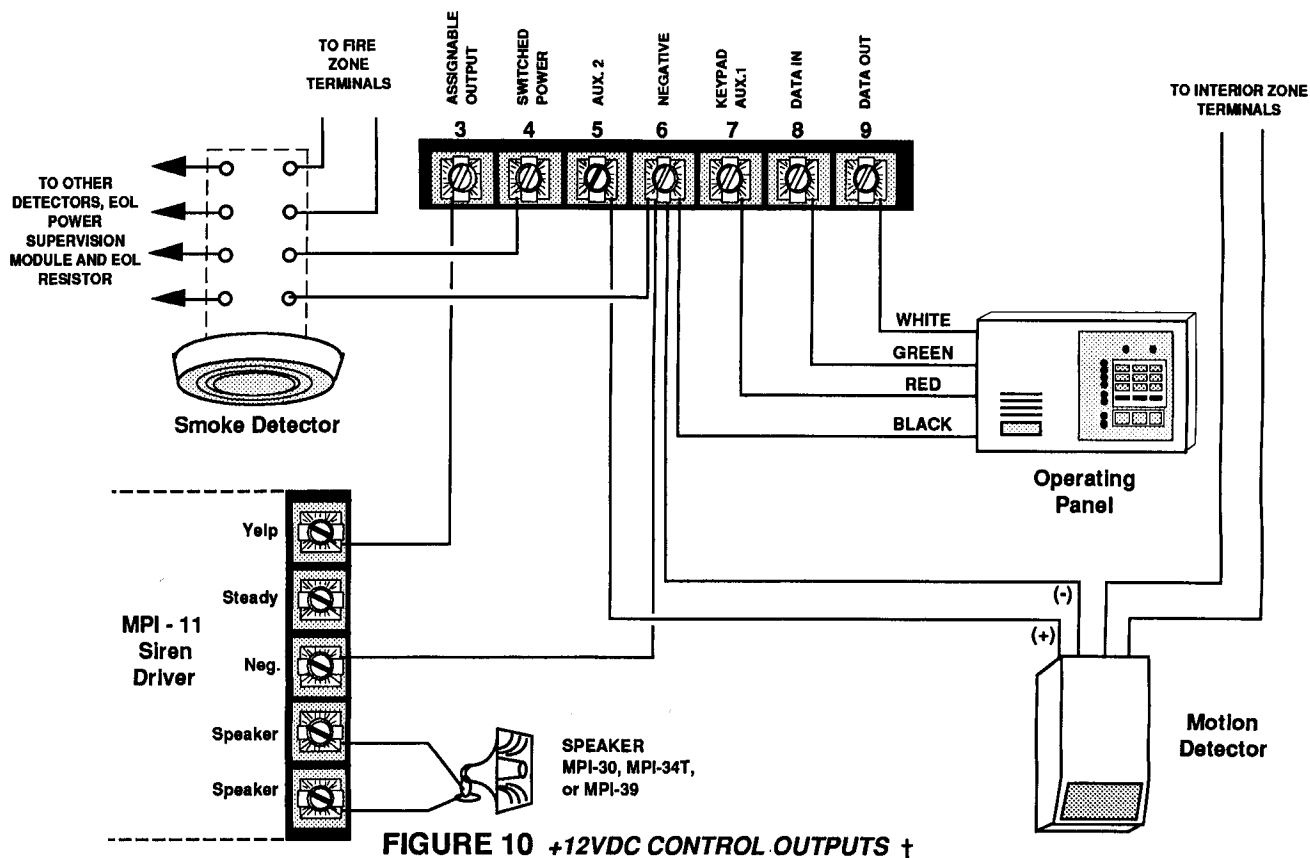

FIGURE 10 +12VDC CONTROL OUTPUTS †
Provides (+)12volts DC power for smoke detectors (see ff note on page i). The power from this output is momentarily interrupted to reset smoke detectors from the operating panel using the "7" key. To do this, press key "7" and hold for three seconds. The "Ready" and "Armed" LEDs will flash alternately to indicate that a code is required to access this function. Enter a valid User Code (code must be entered within 8 seconds or the control will exit this mode). The control will perform a battery test and interrupt Smoke Power. Each time the control does an automatic 24 hour test, power from this output will be removed for 5 seconds. For this reason, Switched Power should not be used to power any device that will trigger an alarm upon interruption and restoral of power. This output is fused at 2.5 amperes by fuse F2 which is also used to fuse the Keypad Power/Auxiliary 1 output (terminal 7). Do not exceed the current drain limitations as indicated in Table 10, page 42. See Figure 10 for a hook-up example.
Used to provide (+)12 volts DC power for motion detectors and other devices requiring uninterruptable power. This output is protected by a 2.5 ampere fuse (F1) which is also used to fuse the Assignable Output (terminal 3). Do not exceed the current drain limitations as indicated in Table 10, page 42. See Figure 10 for a hook-up example.
Used to supply (+)12 volts DC power for operating panels. This output is fused at 2.5 amperes by fuse F2 which is also used to fuse the Switched Power output (terminal 4). This output may also be used to supply auxiliary power for motion detectors and other devices provided the total current draw does not exceed the limits as set by Table 10, page 42. See Figure 10 for a hook-up example.
Assignable through programming (Function 182) to provide a (+) 12volt DC output upon any or all designated alarm conditions. If this output is not used for output upon alarms, it may be assigned to any ONE of the following other conditions: Switched Power reset (key 7)/24 hour automatic tests, access activation, supervisory/trouble conditions, or entrance pre-alarms and chime (key 6). If used to provide output upon alarms, it then must be defined as to the type of alarm condition(s) that will activate this output. This may include Burglar, Fire *ff* (Auxiliary "A"), Police (Auxiliary "B") or Medical (Auxiliary "C") alarms (or any combination) as selected through programming Functions 183-186. Sirens, bells, or other output devices may be connected directly to the Assignable Output (terminal 3) of the control provided they do not exceed the current drain limitations as indicated in Table 10, page 42. It may be desired to use this output for non-alarm conditions when using the optional Z729 Siren Driver/Output Expander **. This output is protected by a 2.5 ampere fuse (F1) which is also used to fuse the Auxiliary 2 output (terminal 5). See Figure 10, page 10 for a hook-up example.